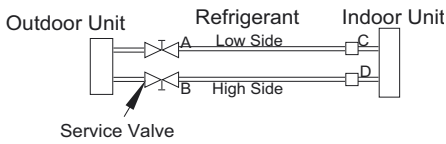

Fig. 18 – Service Valve
1. Completely tighten flare nuts A, B, C, D, connect manifold gage charge hose to a charge port of the low side service valve. (See Fig. 18.)